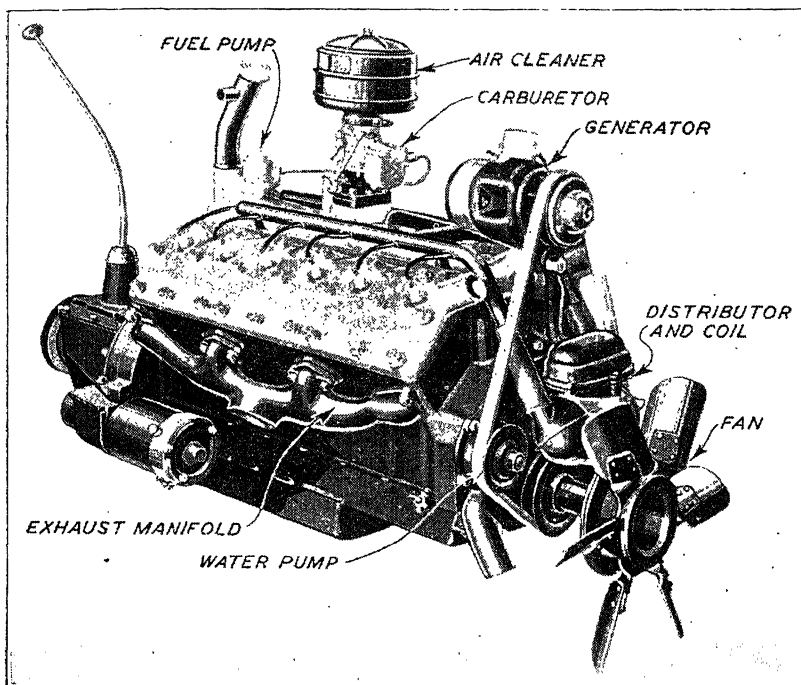

Fig. 6. Lincoln-Zephyr V-12 Engine
**V-Type Engine.** The Ford Lincoln-Zephyr V-12 engine used in the Lincoln-Zephyr car is of the V type, with twelve cylinders which are set at an angle of 75 degrees, as shown in Fig. 6. This angle gives a firing impulse of 75 degrees, and 45 degrees of crankshaft travel. The cylinders are offset .250 inch.